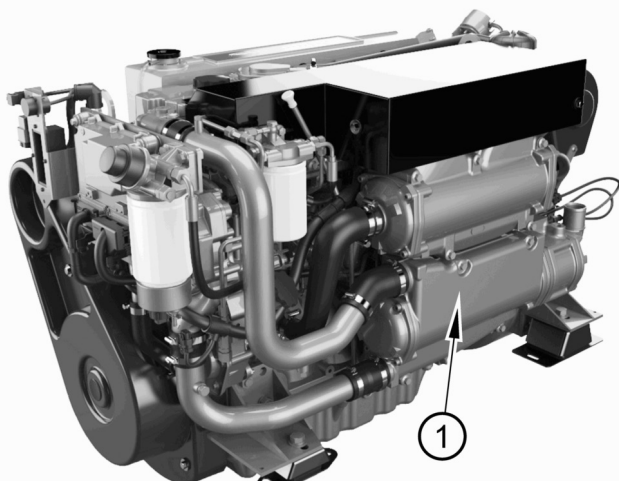

Figure 13
The interval for the maintenance of the tube type heat exchanger (figure 13 item 1) depends on the operating environment of the vessel and on the operating time. The sea water that is circulated through the heat exchanger and the amount of operating time of the vessel affects the following items: